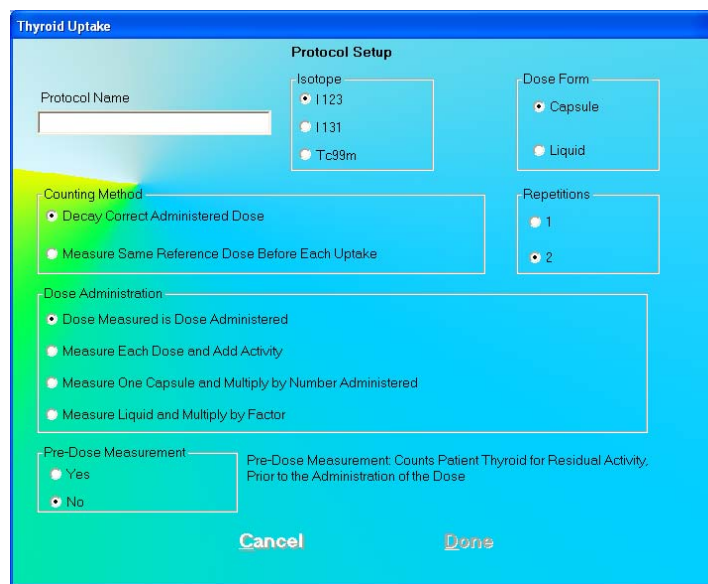

Figure 7-3
1. Click the  icon on Figure 7-2 Protocols Screen. The Protocol Setup screen will appear as shown in Figure 7-3. In each of the frames on this screen, only one option can be selected.